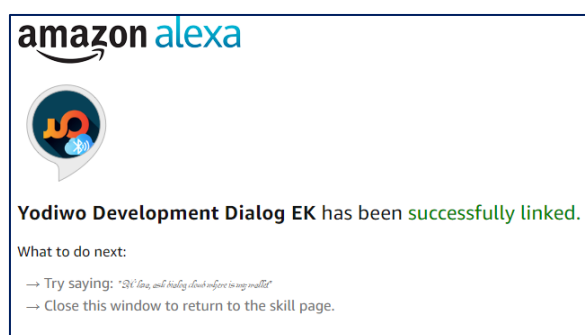

Figure 70: Alexa: Skill Activation Succeeded Screen
6. Give your consent for the application to have access to your profile emailOnce the public skill is successfully activated, Figure 70 is displayed.